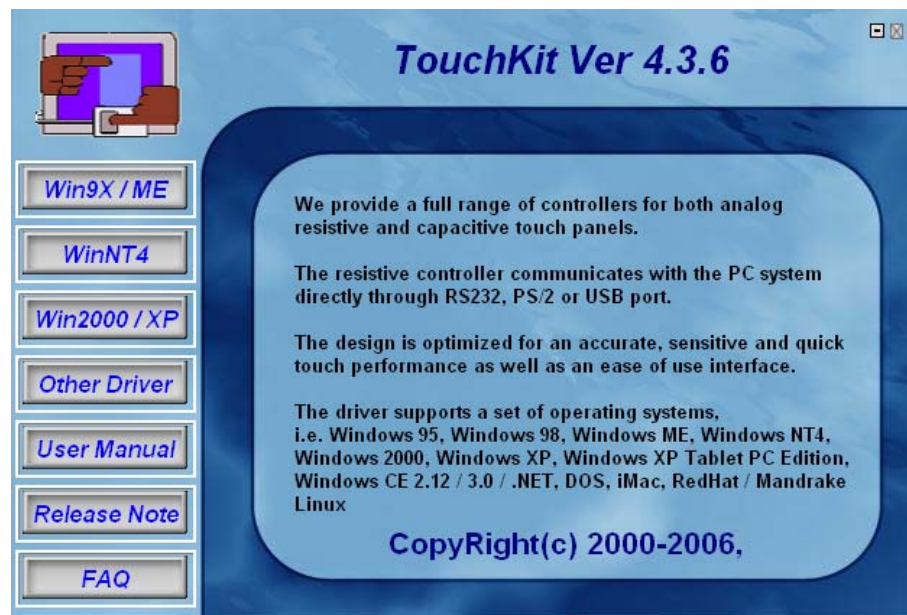

Figure 7-1: Driver CD Pop Up Screen
Step 2: Once the CD drive is installed, the screen in **Figure 7-1** appears.